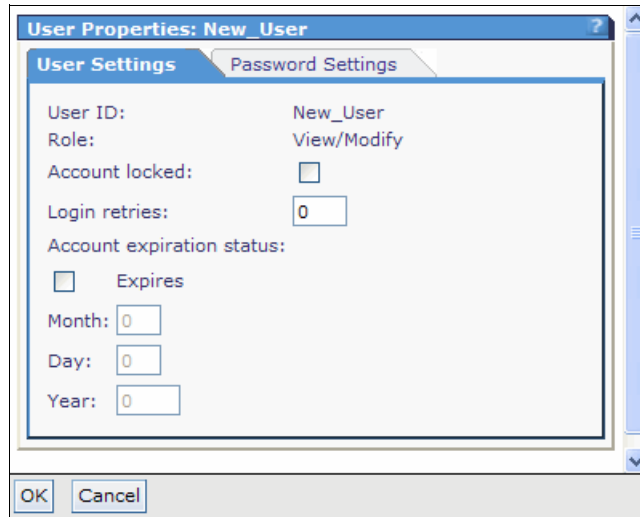

Figure 5-39 User Properties window: User Settings tab
- ▶ After the user creation, it is possible to edit **User Properties**, under the User Settings and Password Settings tabs, as shown in Figure 5-39 and Figure 5-40.